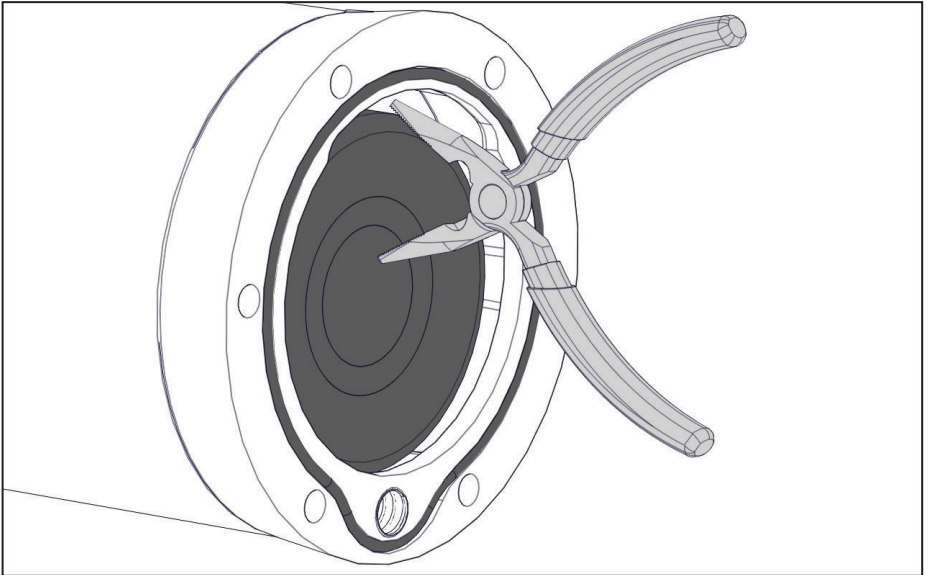

Figure 26 — Replacing the Coalescing filter spring
- ☐ Remove the Viton O-ring, coalescing element and wave spring from the AOST (Figure 26).